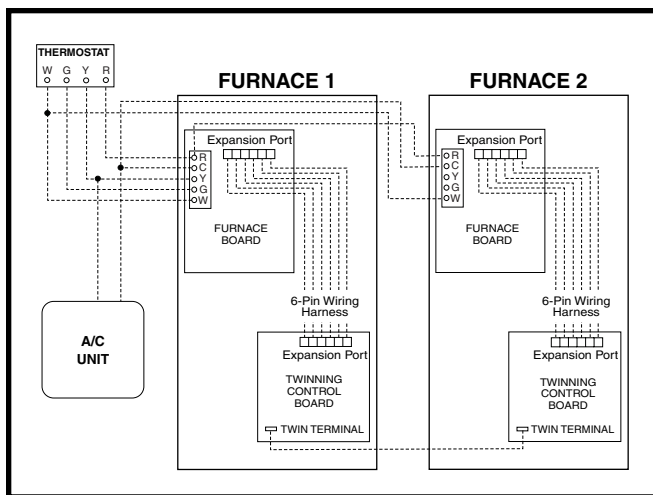

Figure 16. Single Stage Twinning
If both single stage furnaces are upgraded to the fixed speed iSEER™ blower, the twin terminal on the blower control boards (Figure 16) may be used to twin the single stage furnaces only if the following criteria are met:
For twinning of single stage furnaces equipped with fixed speed iSEER™ blowers, refer to Figure 16 and the following instructions:
- Refer to Figure 16, \(page 22\) for the remaining thermostat connections. The C connection must be made between the twinned furnaces to ensure proper performance.